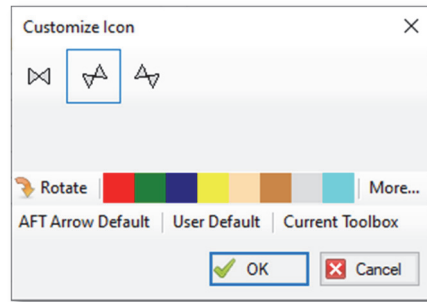

Figure 3.19 Right click on the junction to open the Customize Icon window and select the preferred settings
4. You will notice that placing junctions onto the Workspace follows the usual rules, however, the visual appearance of the icons can be more complex than on a 2D grid. Due to the increased number of axes, the preferred icon and rotation can be selected to obtain visual consistency. Right click on J7 and select Customize Icon. Select the icon shown in Figure 3.19.